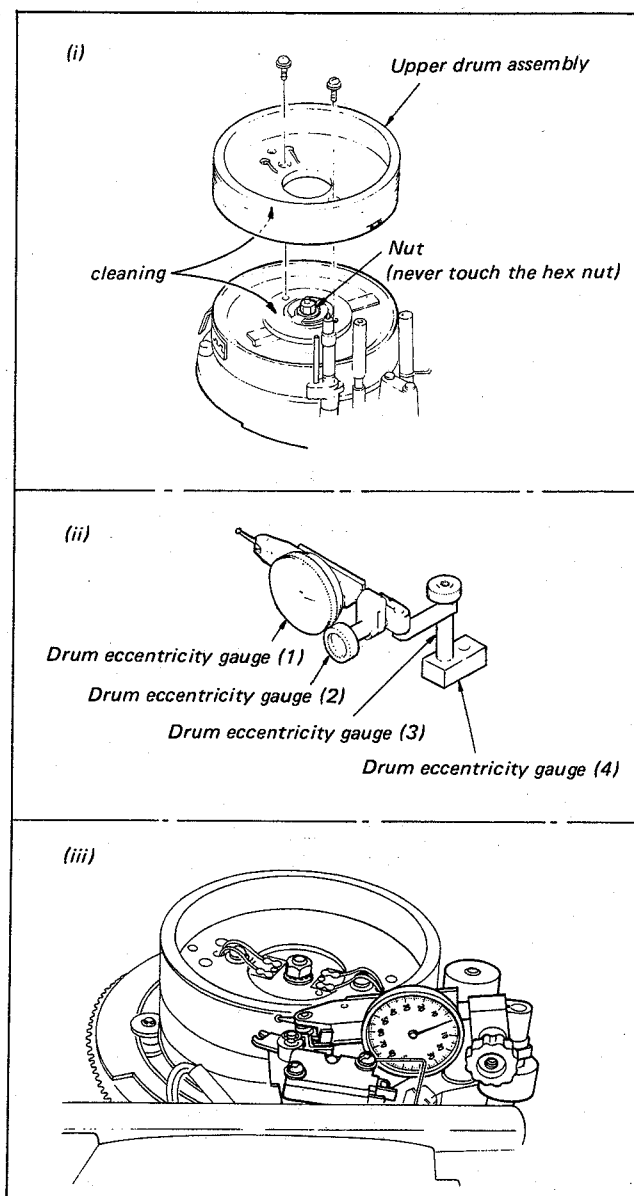

Fig. 3-1. Replacement of upper drum
4. Assemble the drum eccentricity adj. jigs (1), (2), (3) and (4) (Jig Ref, Nos. J-1, -2, -3, -4) as shown in Fig. 3-1. Mount the assembled jigs on the slant base so that the tip probe positions at the point about 5mm apart from the top edge of the upper drum.